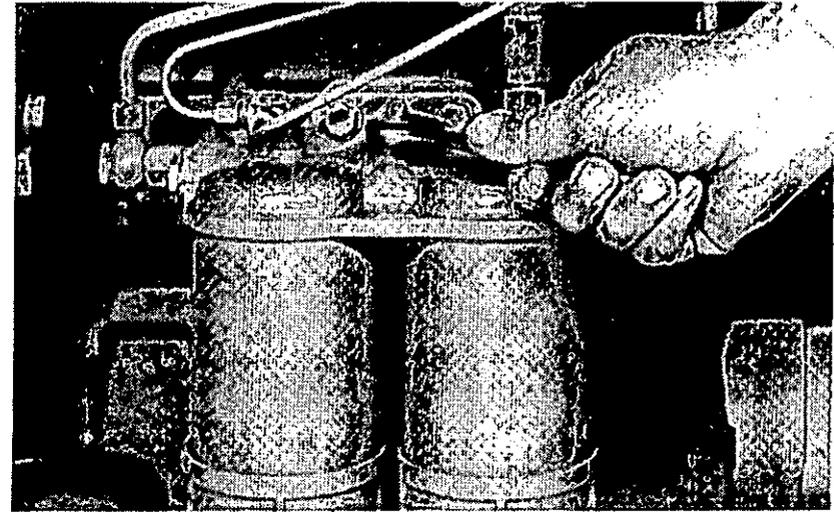

Fig. 16 Fuel filter vent plug
- 1 Loosen the vent plug on the top of the fuel filter by two or three turns (see fig. 16).